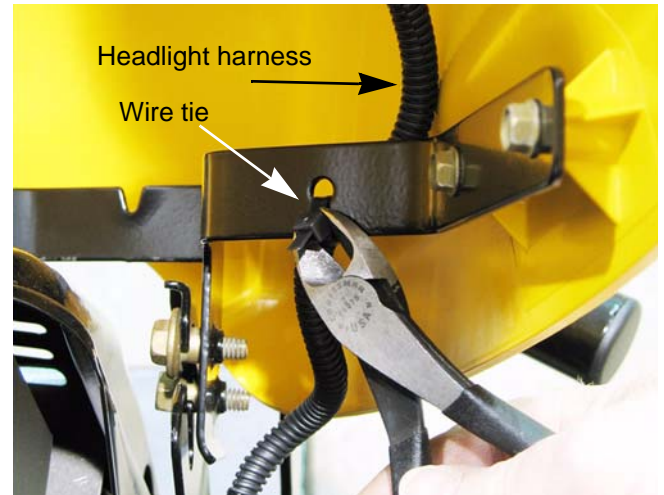

Figure 4.3
4. Cut the wire tie that secures the headlight harness to the hood. See Figure 4.3.